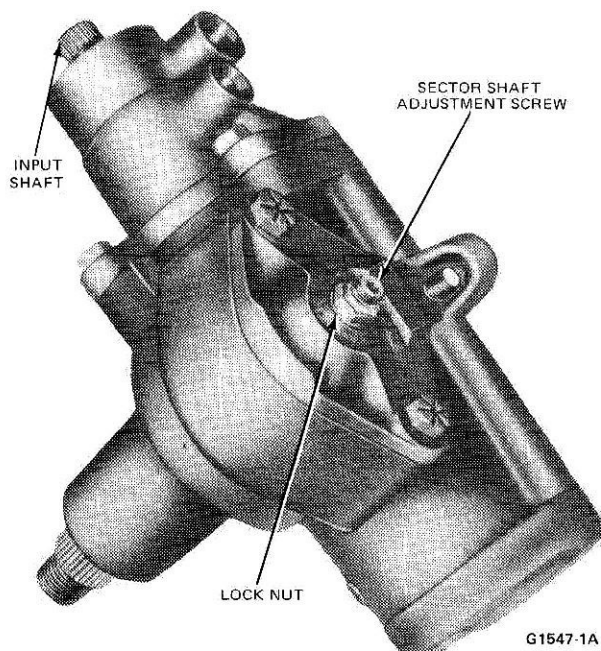

FIG. 2 Adjusting Mesh Load
6. Turn the steering wheel back to center, and determine the torque required to rotate the shaft back and forth across the center position. Loosen the nut, and turn the adjuster screw (Fig. 2) until the reading is 14 to 18 in-lb greater than the torque measured at 45 degrees from the stop. Tighten the nut while holding the screw in place.